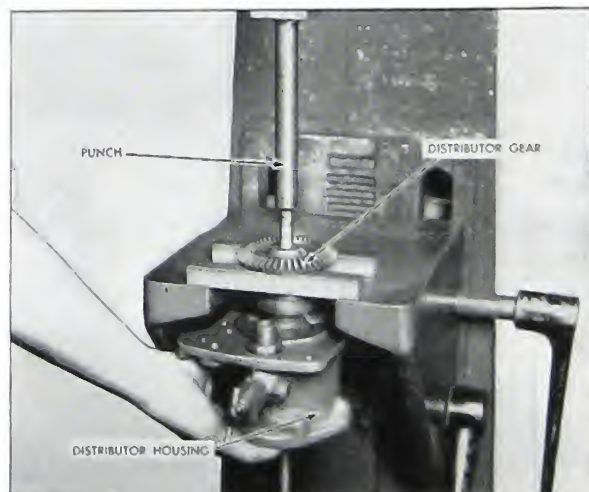

Fig. 5-20. Removing distributor drive gear
7. Press the gear from the distributor shaft, being careful to support the gear close to the shaft to prevent warping the gear. Remove the Woodruff key from the shaft. Fig. 5-20.